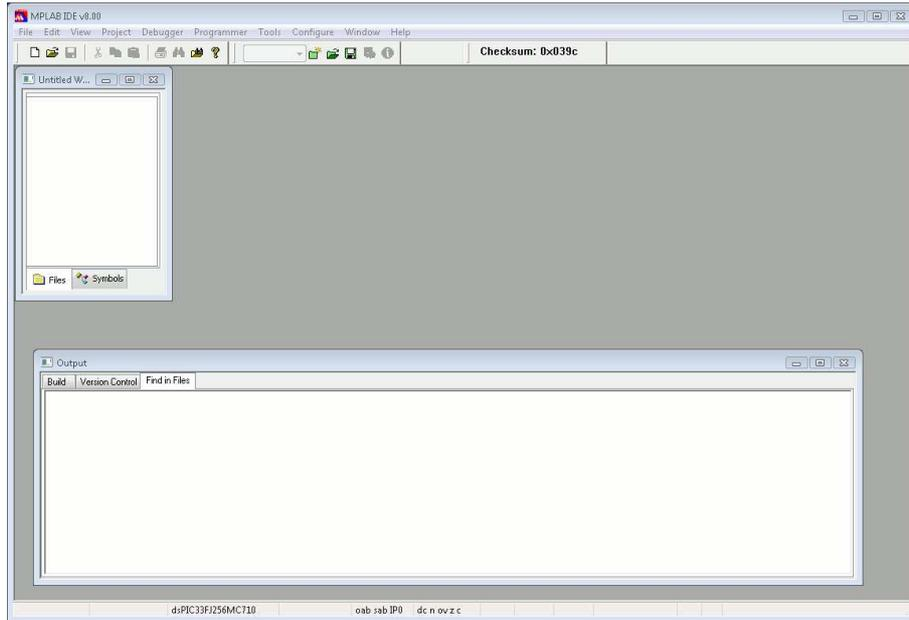

Figure 5.8: The Microchip MPLAB IDE.
- You are now ready to import the produced COFF file inside Microchip MPLAB IDE. To do that, open MPLAB IDE as in Figure 5.8.